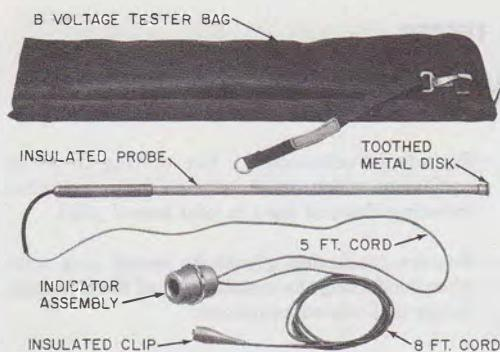

Fig. 1—B-Voltage Tester
2.01 *B-Voltage Tester:* The B-Voltage Tester (Fig. 1) is designed to detect the presence of voltages from 60 to 7200 volts. It consists of an indicator assembly with a small neon globe unit and reflector, and a plastic-insulated probe. The probe is equipped with a toothed metal disk on one end for making contact to a conductor, conduit, street light fixture, or any other object to be tested. The probe is designed to limit the amount of current which can pass through the device.